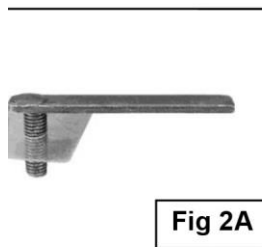

Fig 2A
2. Select (2) 10mm Bolt Plates and (2) 10mm Plastic Retainers, (Figure 2A). Partially thread the Retainers onto the Bolt Plates. NOTE: The Plastic Retainer is designed to help hold the Bolt Plate in place during Bracket installation.
5. Locate the round hole in the back of the outer frame channel directly behind the previously installed Bolt Plates, (**Figure 5**). Remove the rubber plug. Select (1) 10mm Bolt Plate and (1) 10mm Plastic Retainer, (**Figure 2A**). Partially thread the Retainer onto the Bolt Plate. Insert the Bolt Plate into the hole and tighten the Retainer as previously described.